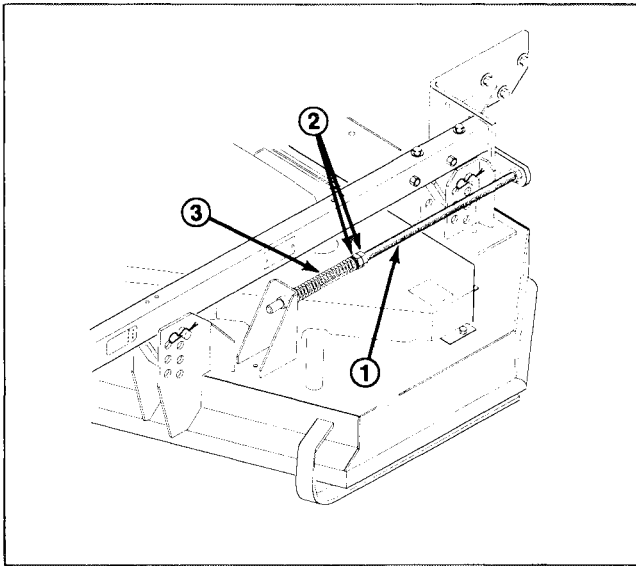

Figure 15
2. Loosen jam nuts on each adjusting shaft and remove engine to deck drive belt (Fig. 15).
7. Install belt to drive and clutch pulley (Fig. 15).